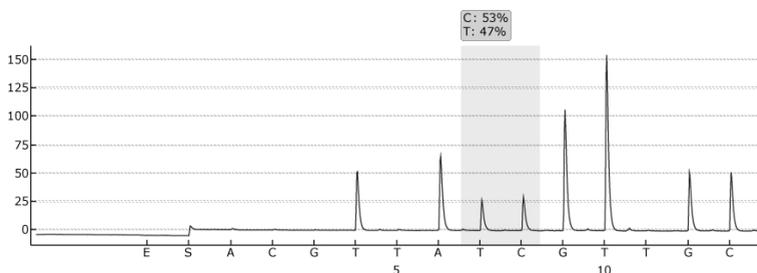

Figure 11. Pyrogram of PyroMark Q24 Troubleshooting Run.
48. Open the run in the ▲ PyroMark Q24 Software or the ■ PyroMark Q24 Advanced Software and analyze all wells. The peak pattern for Run 2 should look like the one in Figure 11.